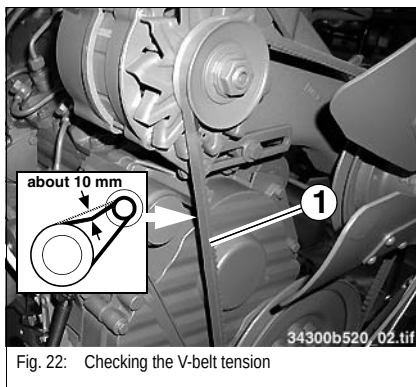

Fig. 22: Checking the V-belt tension
- Use a suitable tool to push the alternator in the direction of arrow A until the correct V-belt tension is obtained (fig. 22)
- Check V-belt tension (fig. 22) again